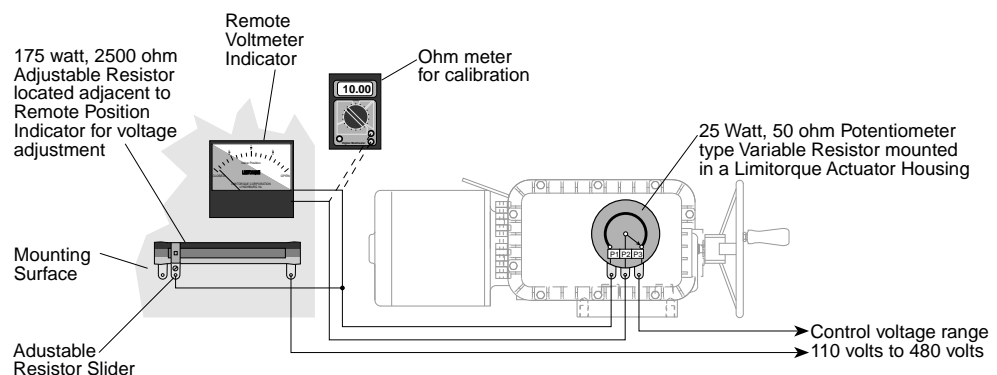

Figure 16 - Remote Position Indicator configuration
2. Turn power to actuator OFF and connect all wiring as shown in figure 16. For now, connect the wires leading to the Remote Voltmeter Indicator to your Test Meter so you can conduct voltage readings during the setup.